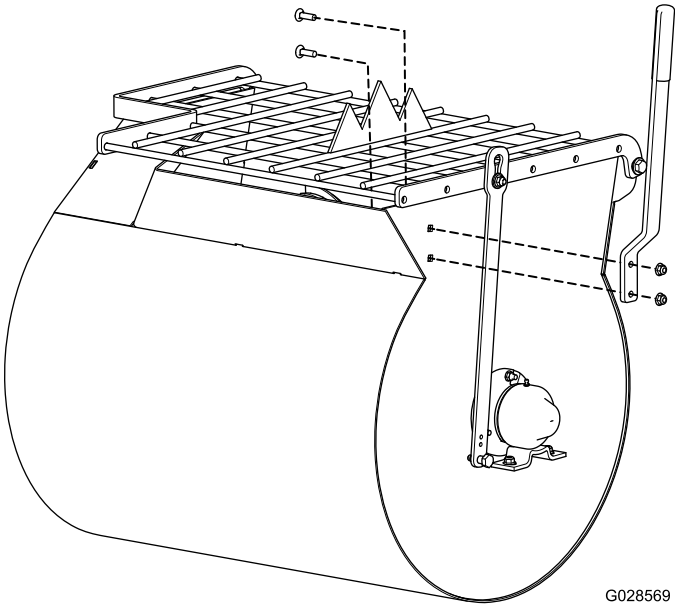

Figure 3
2. Position the dump handle so that the bolt holes align with the bolt holes in the drum (Figure 3).
3. Insert 1 carriage bolt into the square bolt hole and slide the corresponding hole of the drum handle over it(Figure 3).